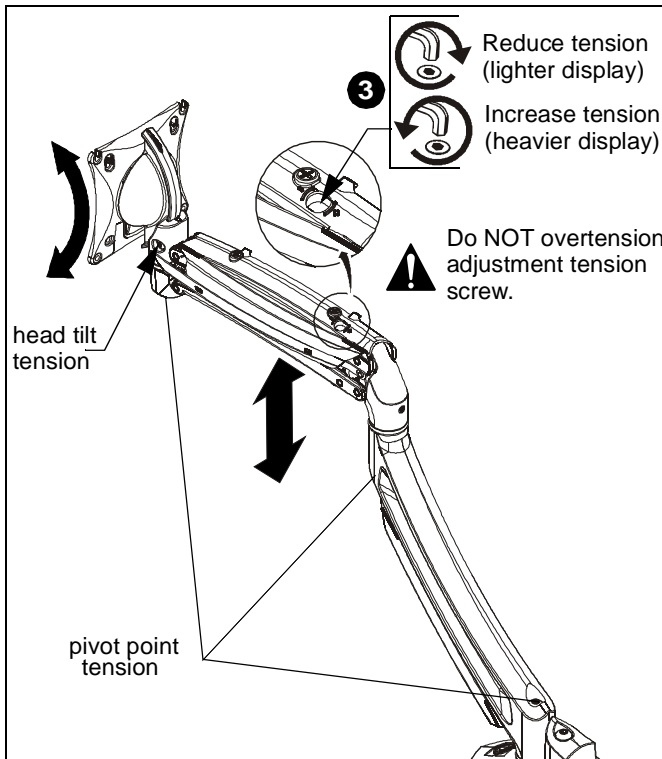

Figure 15
1. Adjust head tilt to desired tilt position. (See Figure 15)
2. Adjust head tilt tension screw to change the adjustment tension. (See Figure 15)
1. Adjust arm height to desired level. (See Figure 15)
3. Use 1/8" hex key (J) to adjust height-adjustment tension screw to change adjustment tension. (See Figure 15)
1. Adjust pivot position as desired. (See Figure 15)
2. Use 3/16" hex key (H) to adjust pivot point tension screws to change pivot adjustment tension. (See Figure 15)